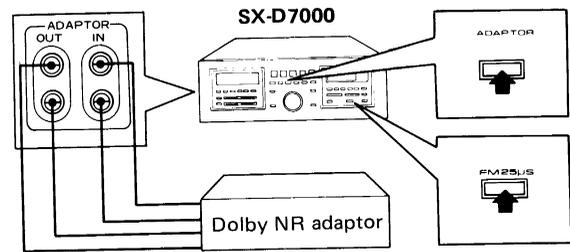

Fig. 13
1. Connect the Dolby NR adaptor to the ADAPTOR jacks (OUT, IN), as shown in Fig. 13.